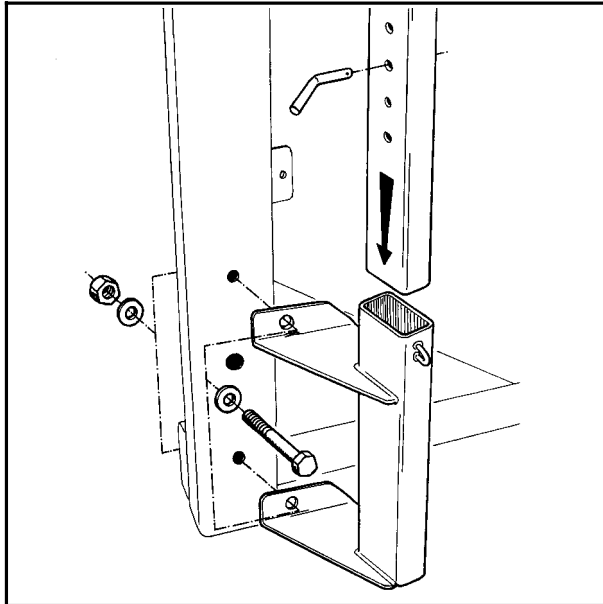

Fig. 4-1
**THE PRESTRETCHER-BRACKET** is to be mounted on the right side of the machine, in the lower holes with two screws M10 x 80, washers and lock nuts. (Fig. 4-1).